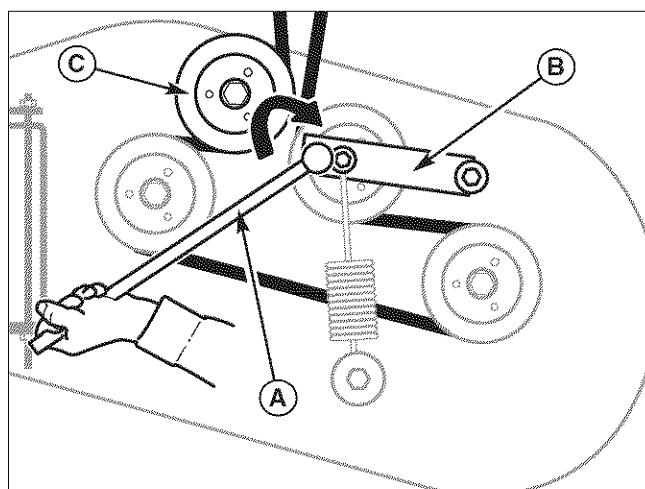
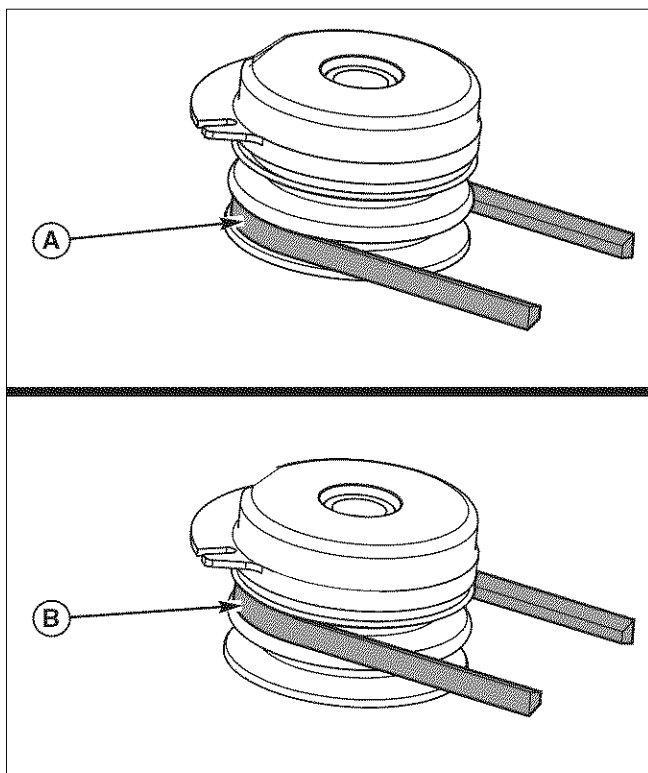

Figure 7. Remove the Cutter Deck Belt
Figure 8. Belt Positioning for Cutting Range
2. Using a 1/2" breaker bar (A, Figure 7), place the square end in the square hole located on the end of the idler arm (B). Carefully rotate the breaker bar CLOCKWISE, which will relieve the tension on the belt exerted from the idler arm.
3. Slide the drive belt over the edge of the Stationary idler pulley (C). Carefully release the tension on the breaker bar until the idler arm comes to a stop.
4. See Figure 8. If you are adjusting the cutting height range between 1-1/2" (3,8 cm) and 2-3/4" (6,9 cm) position the belt in the lower pulley on PTO clutch. If you are adjusting the cutting height range between 2-3/4" (6,9 cm) and 4.5" (11,5 cm) position the belt in the upper pulley on the PTO clutch.